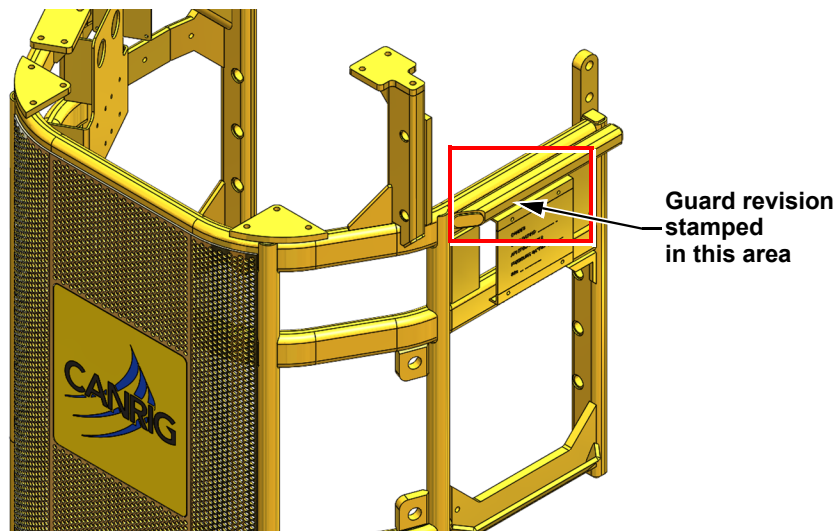

Figure 2: Location of Revision stamped on the guard
1. Determine the revision of the guard by checking the stamped revision mark—see Figure 2 for its exact location. After determining both the part number and revision of your guard, refer to Table 2 on page 3 to find the appropriate reinforcement plates required for the repair.